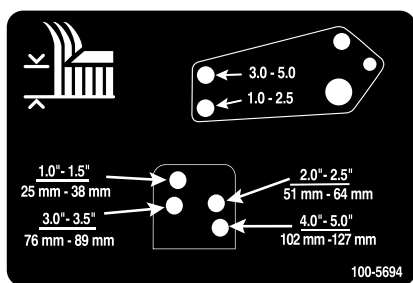

Figure 25
10. Align the damper-link holes with the selected height-of-cut bracket holes in the mower-deck frame, insert the clevis pins, and install the hairpin cotters (Figure 25).